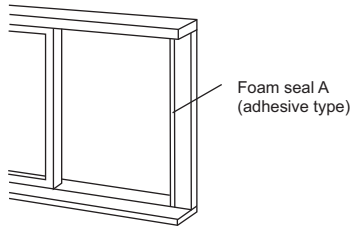

Fig.12
1. Trim foam seal (with adhesive) to the proper length and attach to window frame (Fig.12).